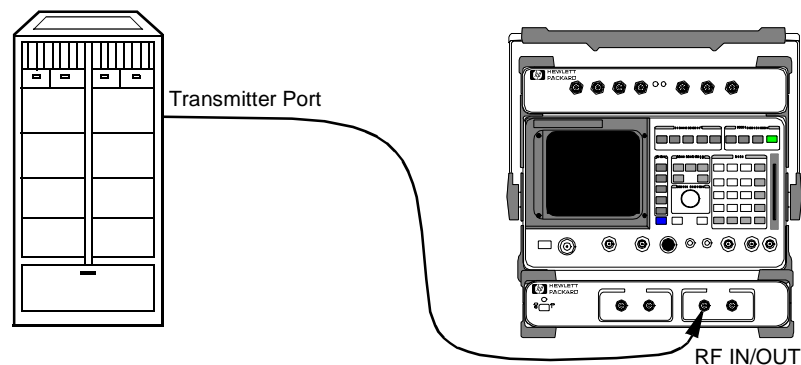

Figure 16
- 1 Connect the equipment as shown in figure 16.